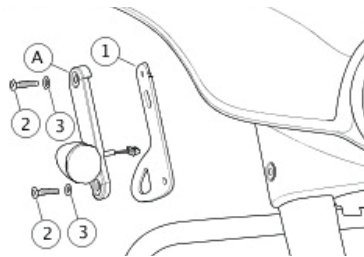

Figure 1. Tie Down Bracket Installation
See Figure 1 and Table 1. This kit consists of a right and left tie down bracket (1), four screws (2), four washers (3) and these instructions. Only the screws (Part No. 3140) and washers (Part No. 6702) are available separately.